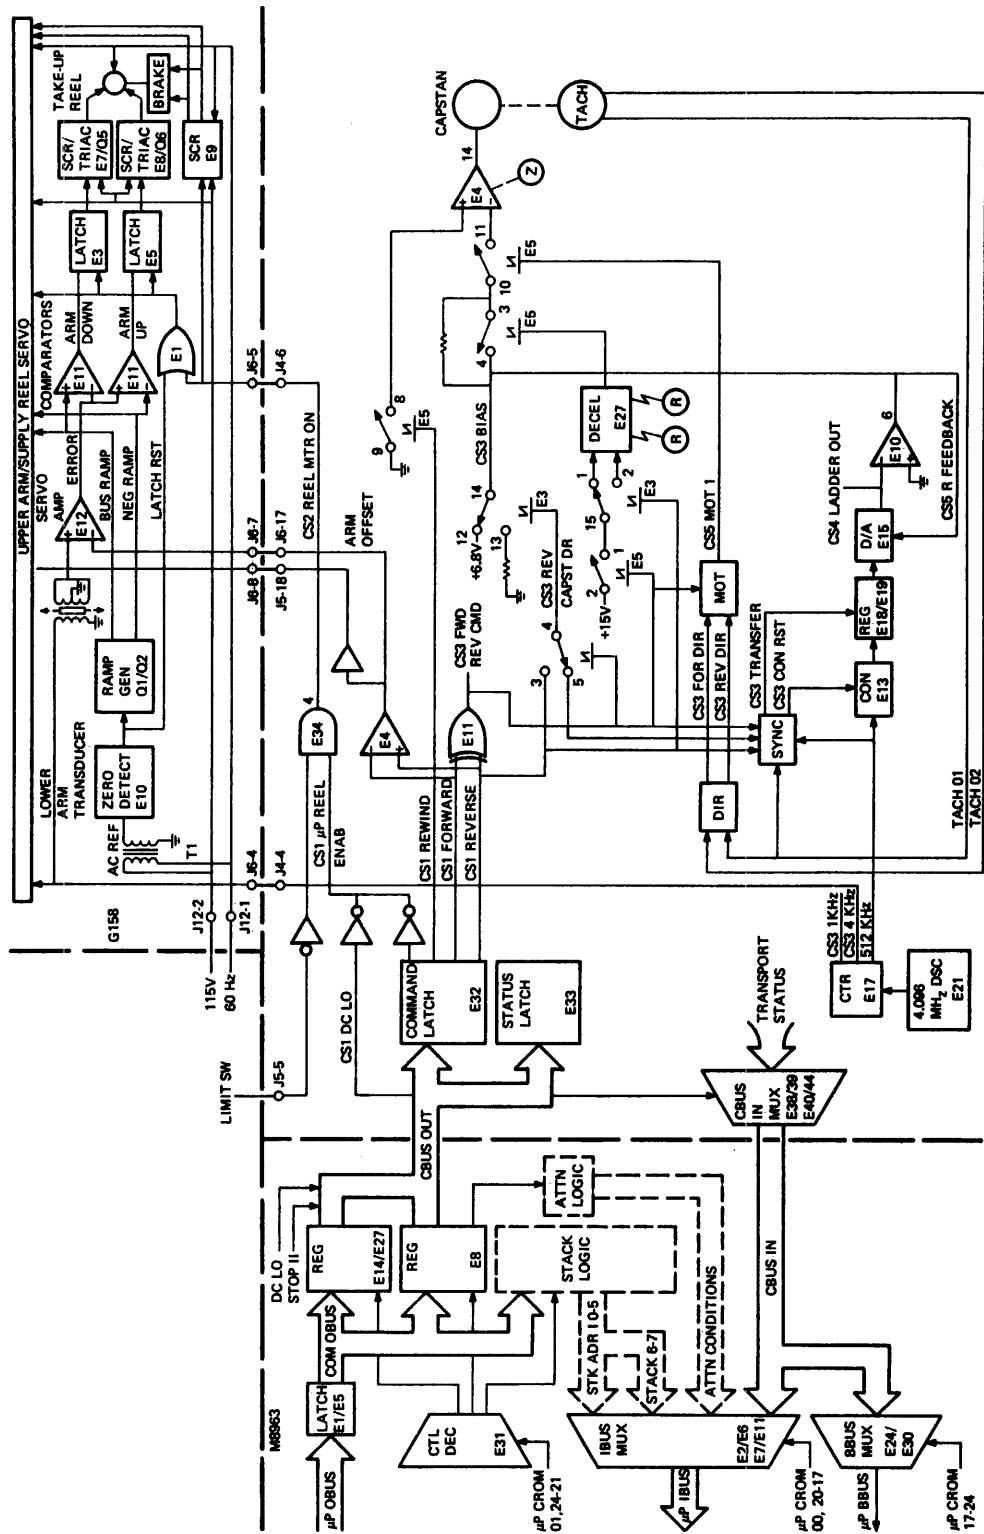
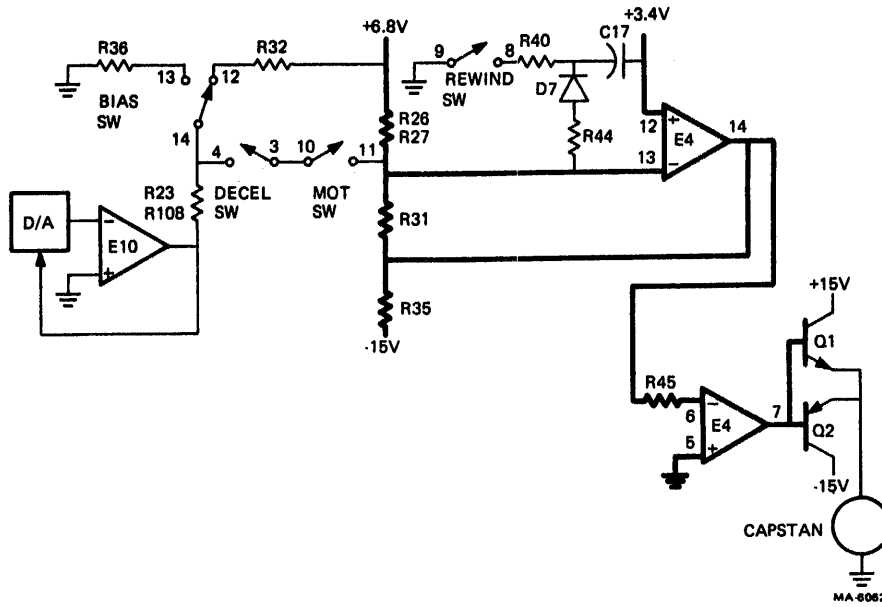

Figure 6-12 Tape Handling Function
Figure 6-16 Idle - Capstan Drive
This section describes the functions of moving tape forward and reverse, rewinding tape, and maintaining correct tape tension. Figure 6-12 is an overall block diagram of the tape handling function.
6.5.2 Tape Handling Commands and Status (Figure 6-12)
The capstan servo board, G159, controls capstan motion. The motion functions performed by this board are motion detection, direction detection, speed regulation, capstan drive, and deceleration control. (Refer to Figure 6-12 for an illustration of the entire board. Figures 6-13 through 6-21 show more detail.)
6.5.3.2 Speed Regulation (Figure 6-12) – Capstan speed is controlled through a resistive ladder digital-to-analog converter, D/A E15. The D/A converter is driven by a resettable counter and register combination, CON E13 and REG E18/E19. Counter CON E13 counts 512 KHz clocks from free running counter CTR E17 and is synchronized to the tachometer by a four flip-flop sync chain, SYNC.
6.5.3.3 Capstan Drive (Figure 6-12) – Switches labeled E3 and E5 are electronically controlled and are shown deactivated (the control input is low). Some of these same switches appear in simplified schematics (Figures 6-16 and 6-17) and have functional names in those figures. The simplified schematics are referenced in the following descriptions of idle, forward, reverse, and rewind operation. Figure 6-20 shows a comparison of how circuit parameters vary between these operations, without attempting to list actual parameter values.
6.5.3.3.1 Idle (Figure 6-16) – The reference input to amplifier E4 (pin 12) is tied to +3.4 V. The circuit attempts, through feedback, to maintain the inverting input (pin 13) at the same level as the reference input.
Refer to Figure 6-12. Assume the capstan is turning forward at 45 in/s and the forward command is dropped. CS3 FWD REV CMD goes low and switch E5 (pins 1 and 2) at the input to the DECEL circuit opens. Switch E3 (pins 3, 4 and 5) deactivates, closing pins 5 to 4 as shown. At this point the following occurs.
1. Refer to Figure 6-13. CS3 FOR DIR stays high until the capstan begins to turn in the reverse direction causing CS5 TACH 0 1 to lead CS5 TACH 0 2, resetting the direction flip-flop. CS3 FOR DIR asserts CS3 REV CAPST DR through switch E3 pins 4 and 5 (Figure 6-12).
4. Refer to Figure 6-12. CS3 REV CAPST DR high activates switch E3 BIAS SW (pins 12, 13 and 14) closing pins 13 to 14. Usually, pins 13 and 14 are closed when the capstan is turning in the reverse direction.
The reel servo board, G158, is shown in the upper right of Figure 6-12. The board contains the following items.